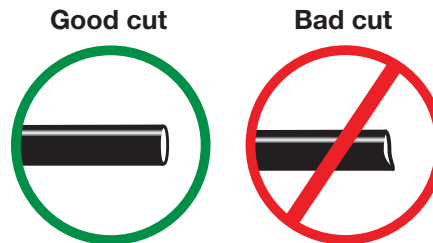

fig. 12
1. Cut the air line in half. Make clean, square cuts with a razor blade or hose cutter (Fig. 12). Do not use scissors or wire cutters.
- a. Check the air line connection by deflating the spring and removing the line by pulling the collar against the fitting and pulling firmly on the air line. Trim 1" off the end of the air line. Be sure the cut is clean and square (see Fig. 12). Reinsert the air line into the push-to-connect fitting.